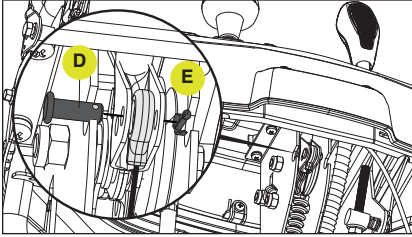

Figure 83
- Under the control panel, location the chute deflector cable, remove both the pin (D) and cotter pin (E). (Fig. 83)